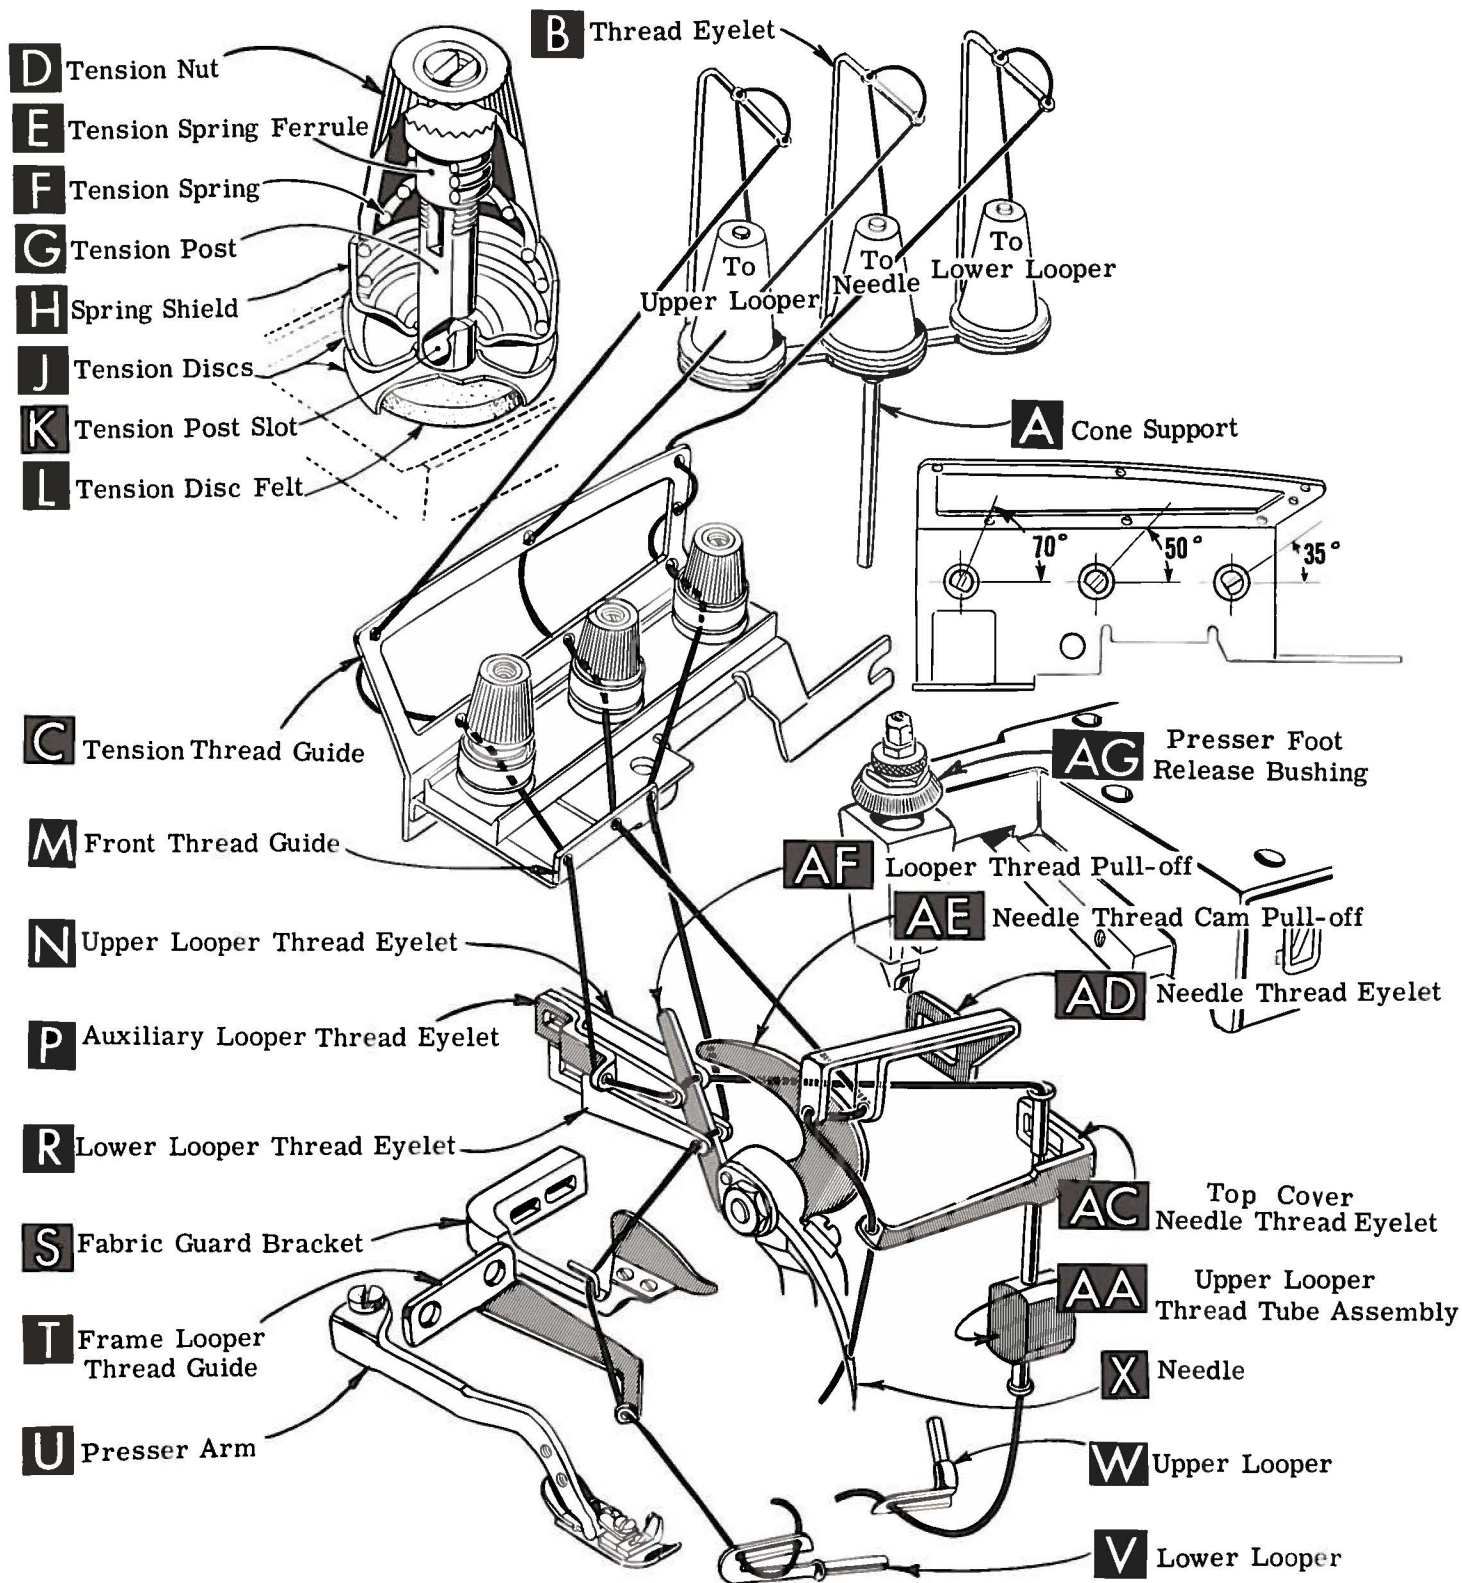

Fig. 1
Release pressure on presser foot by turning presser foot release bushing (AG, Fig. 1) and swing presser arm (U) out of position. Turn handwheel in operating direction until needle is at its lowest point of travel. Using hexagonal socket wrench No. 21388 AU, furnished with machine, loosen needle clamp nut about 1/4 turn. Again turn handwheel until needle is at high position; withdraw needle.
After thread comes from cones on cone support (A, Fig. 1), it is brought up through back hole of thread eyelet (B), then down through the front hole of thread eyelet. Next it is threaded through the upper holes of tension thread guide (C) from front to back and then through the lower holes from back to front. It should be noted that the lower looper thread is threaded through the tension thread guide (C), first through the upper hole back to front, second through the middle hole front to back and third through the lower hole back to front. All threads then continue between the tension discs (J), through tension post slot (K) in tension post (G) and on through front thread guide (M).
Only parts involved in threading are shown in threading diagram (Fig. 1). Parts are placed in their relative positions for clarity.
Thread lower looper thread through right eyelet of front thread guide (M). Then double end of thread and lead it through both eyes of lower looper thread eyelet (R, Fig. 1) from right to left. Note: thread must pass in front of looper thread pull-off (AF). Lead thread behind fabric guard (S) and through eyelet hole of frame looper thread guide (T). Turn handwheel in operating direction until heel of lower looper (V) is all the way to the left; then thread through both eyes from left to right. Left eye of lower looper can be threaded easily if tweezers are held in left hand.
Thread needle thread through middle eyelet of front thread guide (M). Then turn handwheel in operating direction until needle (X, Fig. 1) is at its highest position. Insert needle thread from right to left, through both eyes of needle thread eyelet (AD), under neck of top cover casting; then down through hole in top cover needle thread eyelet (AC). Thread needle from front.